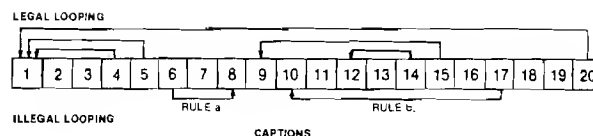

FIGURE 4
- a. The target interval must be less than or equal to the current interval. See Figure 4.
- b. The target interval must not be within any other loop unless it is the target for that loop. See Figure 4.